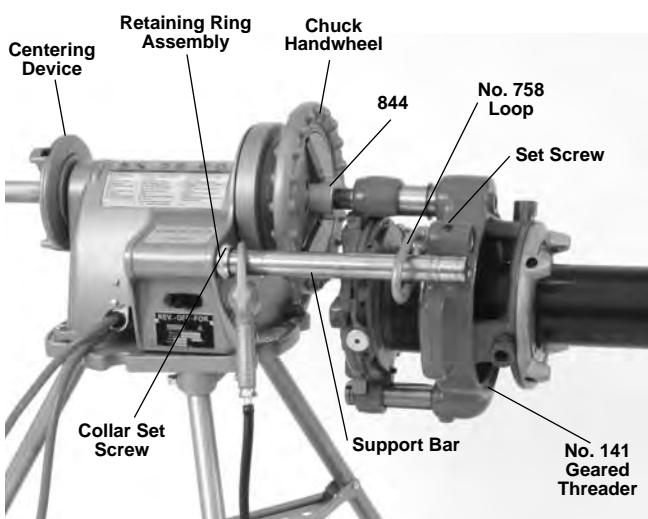

Figure 13 – Model 141 Geared Threader Close-Coupled to Power Drive
- Model 141** – Loosen set screw in geared threader attachment boss. Install the 758 loop into boss and tighten setscrew to retain loop. Pull switch side support bar forward and through the 758 loop and secure in place with the retaining ring assembly (Figure 13).